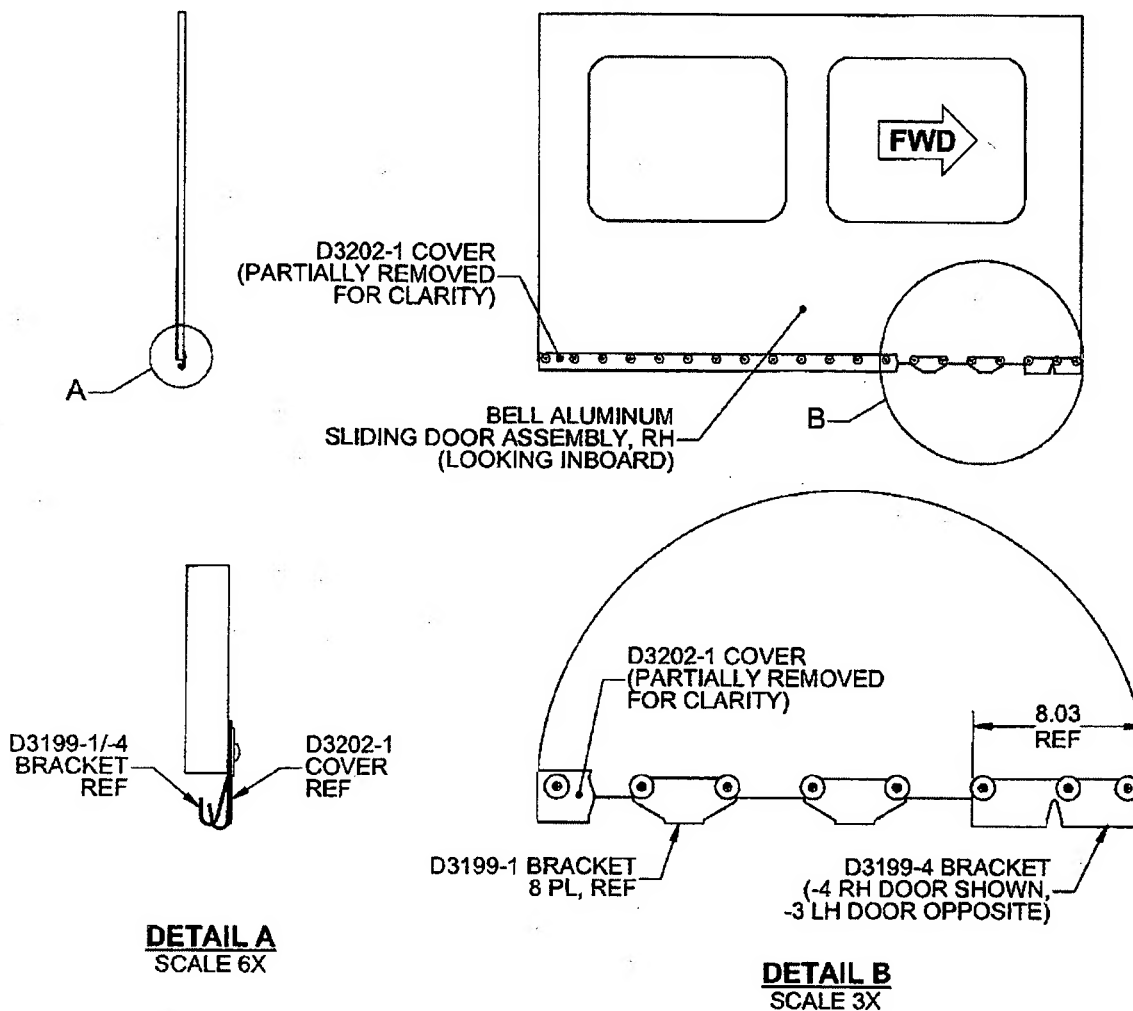
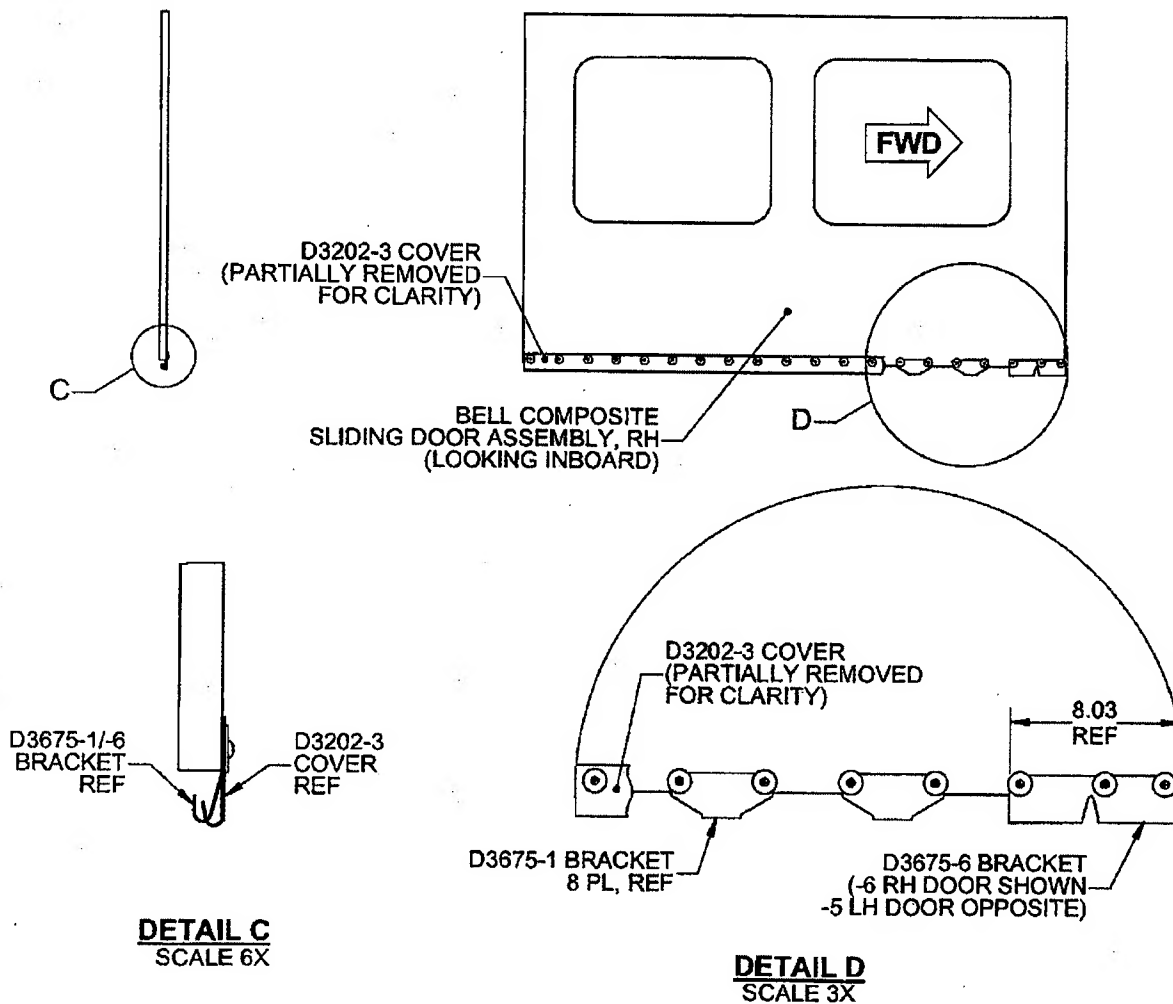

FIGURE 1: D3199-3/4 BRACKET INSTALLATION ON ALUMINUM DOORS
FIGURE 2: D3675-5/-6 BRACKET INSTALLATION ON COMPOSITE DOORS
Refer to Figure 1 Sheet 2 (aluminum doors) or Figure 2 Sheet 3 (composite doors).
- 3) Install the D3199-3/-4 or D3675-5/-6 bracket as applicable in lieu of the removed -1 bracket. Refer to Figure 1 Sheet 2 (aluminum doors) or Figure 2 Sheet 3 (composite doors).